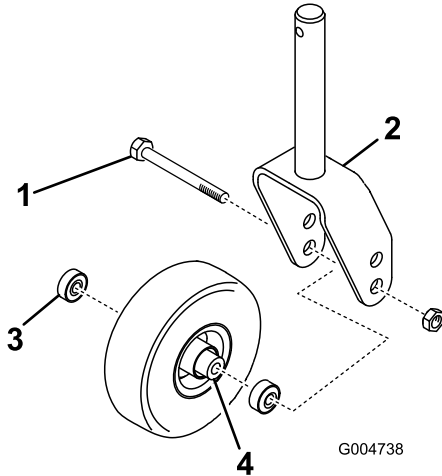

Figure 97
1. Remove the locknut from the bolt holding the caster-wheel assembly between the caster fork or the caster-pivot arm (Figure 97).
2. Grasp the caster wheel and slide the bolt out of the fork or pivot arm (Figure 97).
3. Remove the bearing from the wheel hub and allow the bearing spacer to fall out (Figure 97).
4. Remove the bearing from the opposite side of the wheel hub (Figure 97).